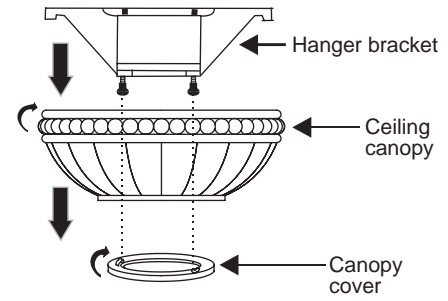

Figure 5
Step 1. Remove the decorative canopy bottom cover from the canopy by turning the cover counter clockwise. (Fig. 5)
Step 2. Remove the hanger bracket from the canopy by loosening the two screws on the bottom of the hanging bracket a half turn from the screw head and turning the canopy counter clockwise. (Fig. 5)